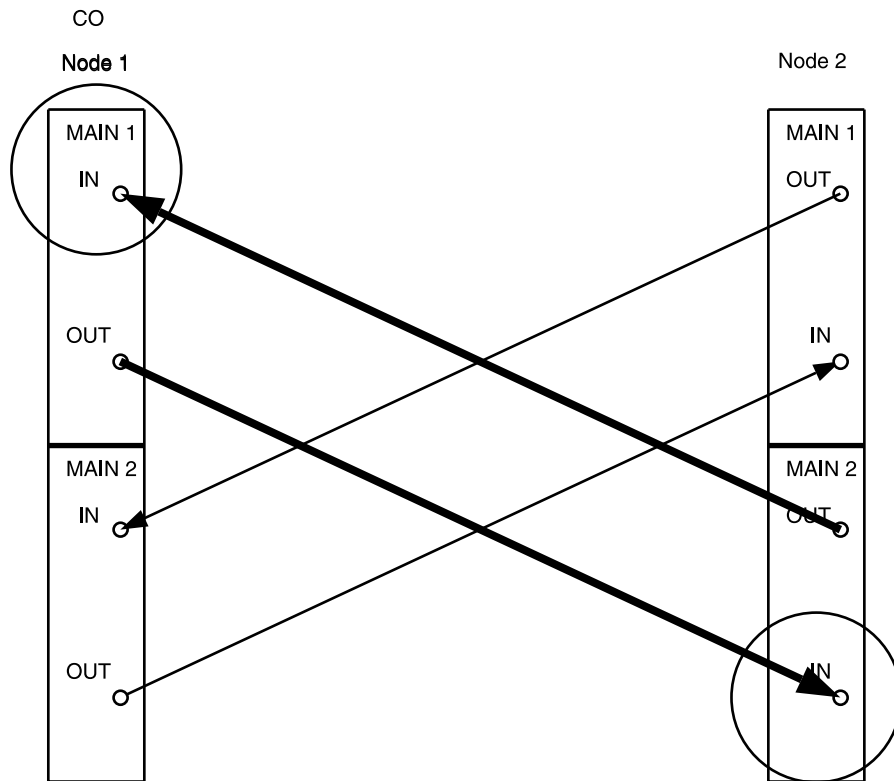

Figure 15 – DDM-2000 OC-3 Point-to-Point to Ring Upgrade
25. Remove optical splitter from Node 1 **MAIN 2(P) IN** and Node 2 **MAIN 1 OUT**. Connect optical fiber from Node 2 **MAIN 1 OUT** to Node 1 **MAIN 2(P) IN**. (See Figure 15.)
At Node 2, use the `switch-line:main:pri>manual` command to switch service to the protection line (`main-2 OLIU active`) at Node 2. (See Figure 15.)